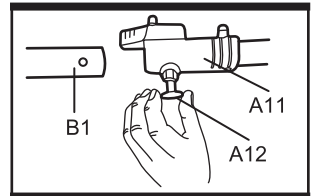

Fig. 3b
- b). Pull out the locking pin (A12) and insert the shaft(B1) into the clamp (A11). Rotate the shaft slightly to let the locking pin engage in the hole. Release the locking pin and ensure it engages in the hole. (See Fig. 3b)